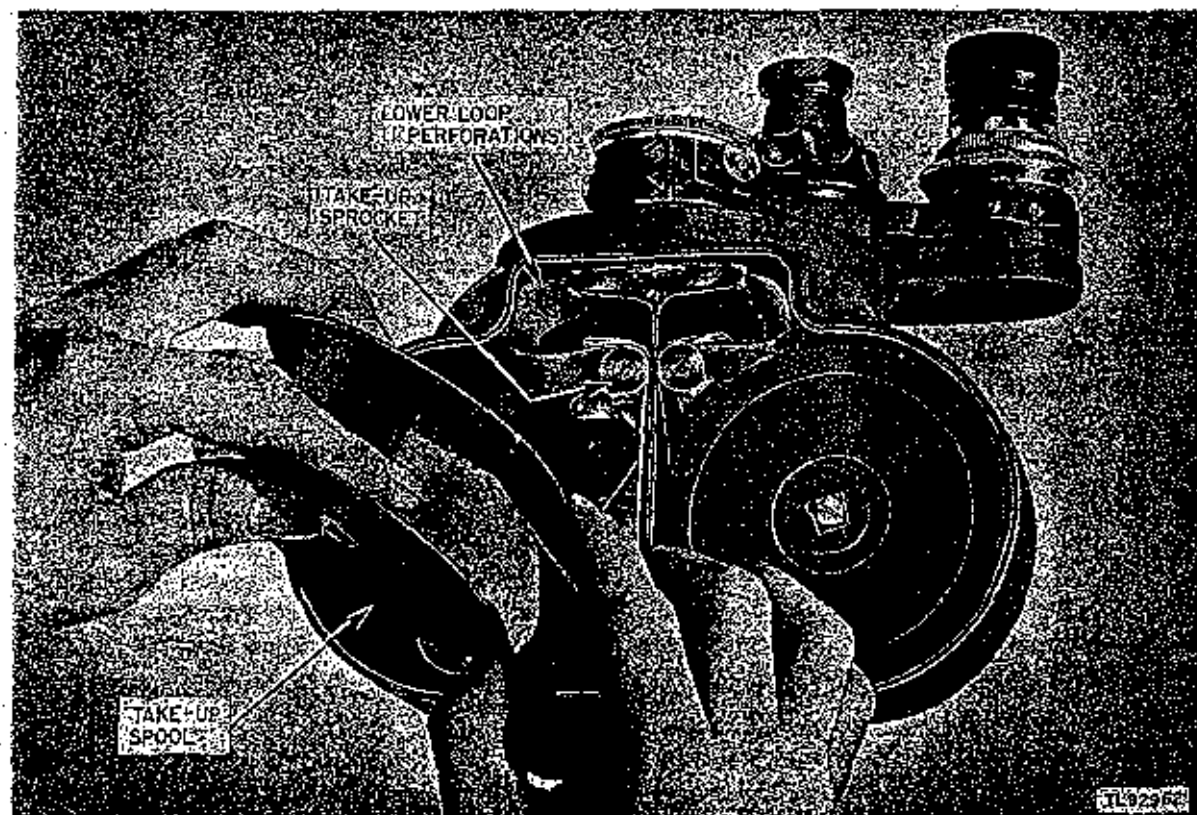

Figure 28. Loading, Camera PH-330-(\*); inserting film leader in take-up spool.
l. Insert the end of the film into the slot on the hub of the take-up spool (fig. 28), winding it clockwise until most of the slack film has been wound on. Place the spool on the take-up spindle.